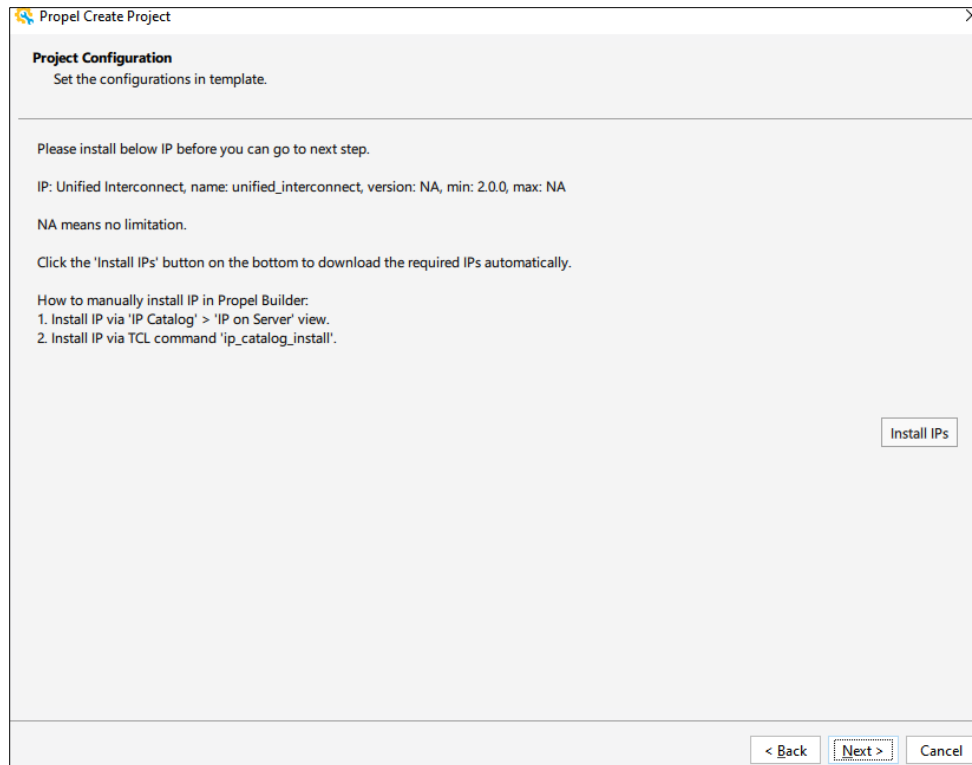

Figure 4.7. Install Required IPs if They Are Missing
6. Install the required IPs from the server if they are not installed. Otherwise, click **Next** (Figure 4.7).